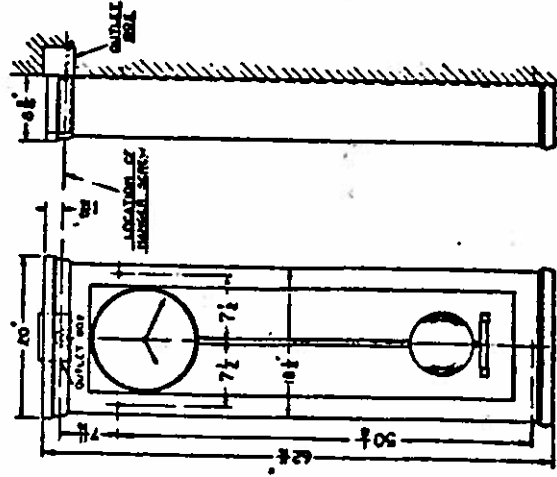

Fig. 3
The usual practice is to place the top of the Master Clock approximately eight (8) feet from the floor. This locates the hands within easy reach for setting and the pendulum in a convenient position for regulation. However, local conditions may necessitate placing the Master Clock at a different height. (See Fig. 3).